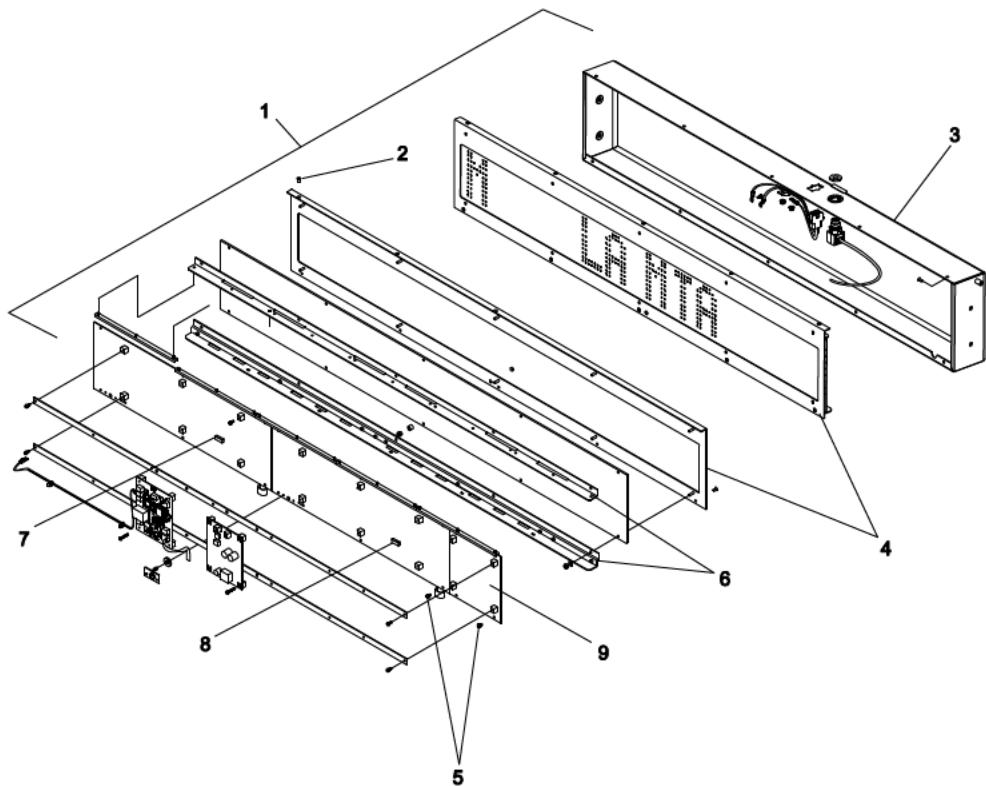

Figure 8-26: Replace Side Destination Sign LED Display Matrix PCB
1. Remove side destination sign assembly (1, Figure 8-26) from its mounted location.
2. Remove ten 6-32 x 5/16 SEM screws (2) that secure the housing assembly (3) to front panel assembly (4).
3. Carefully separate the housing assembly (3) from front panel assembly (4) to access electrical wiring and harnesses.
5. Remove 6-32 x 5/16 SEM screws (5) that secure the defective LED Display Matrix PCB to the bracket assembly (6). There are six screws on each destination matrix (7, 8) and four on the route code matrix (9).
7. Install the replacement LED Display Matrix PCB using the 6-32 x 5/16 SEM screws (5) that were removed previously.
8. Verify that the DIP switch setting on the first LED Display Matrix (7) is: